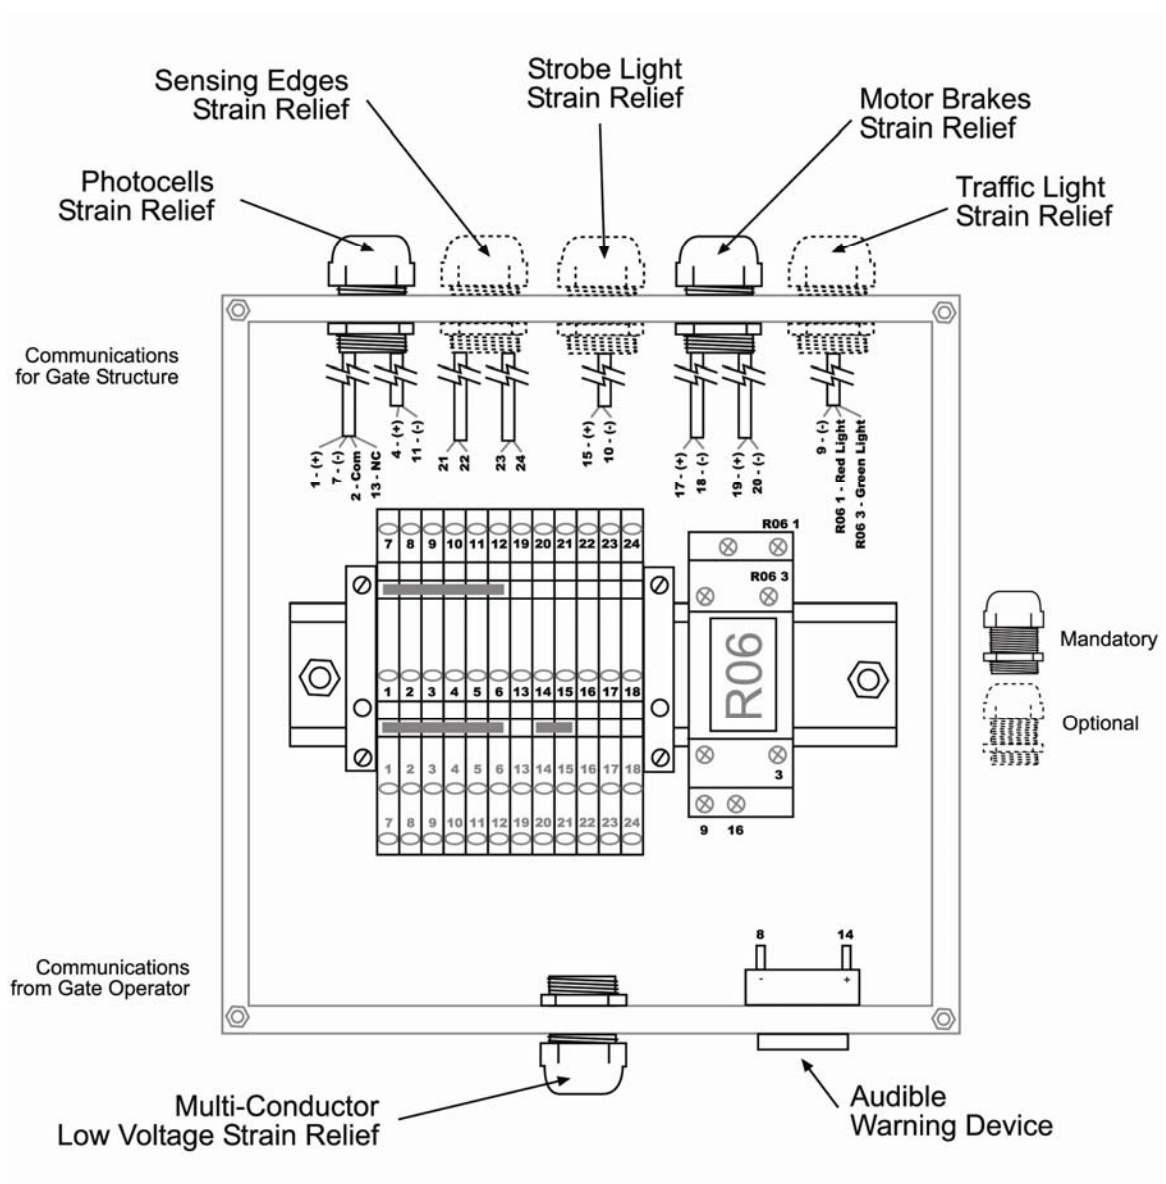

FIGURE 6.8
2.1. Each column motor has a 24vdc brake which must be disengaged to allow motor operation. The brake is mechanically engaged and must have power to disengage. The primary column motor brake uses terminals (+) 17 & #18. The secondary column motor brake uses terminals #19 (+) & #20 (-). Please refer to figure 6.8 for terminal block locations.